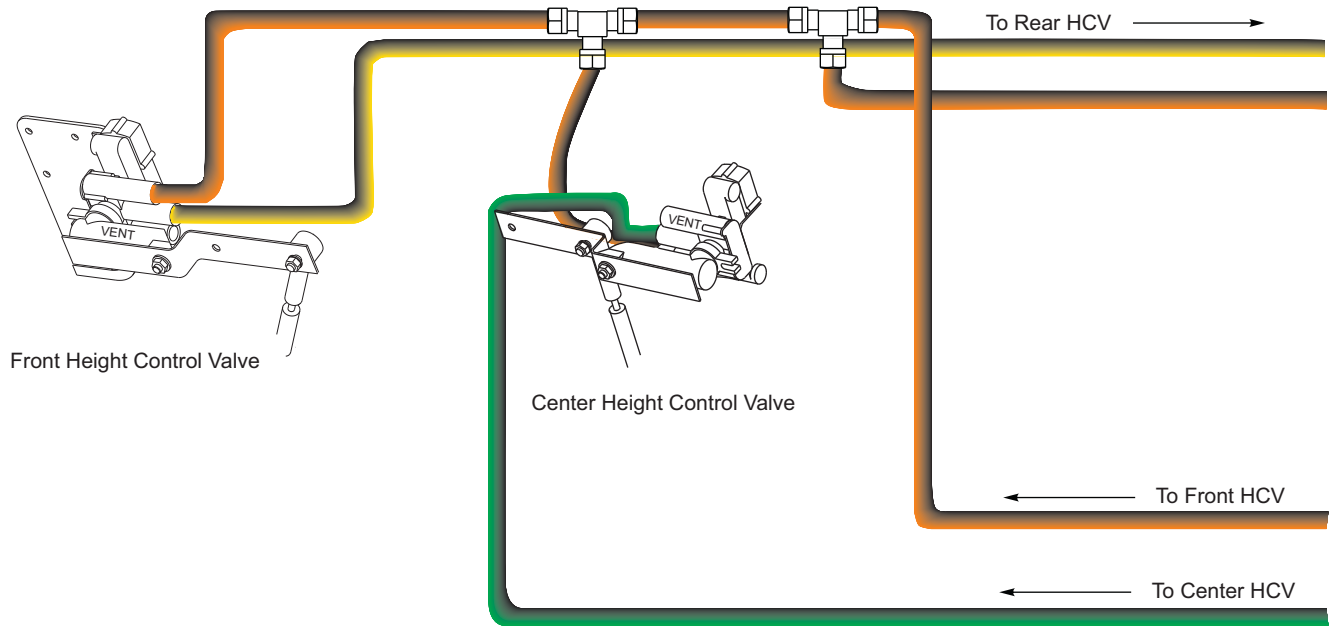

Figure 4-8: Triple Axle Air Ride Suspension System (1 of 2)
2. Disconnect linkage at all three control arms and raise the center axle control arm to the "up" position, raising the trailer until a spacer block (3" for 12-1/4 brake) (5" for 16-1/2 brake) can be placed between axle tube and undercarriage frame (*See Figure 4-8.*)
2. Disconnect center axle height control linkage and dowel pin control arm not to move. Put block between top of axle and frame, 3-1/2" set ride height (*See Figure 4-8.*)